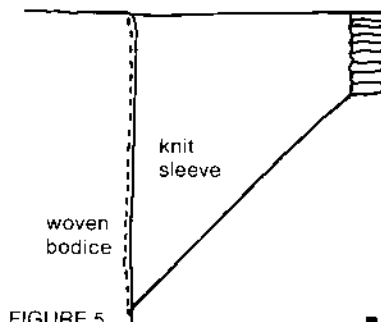

FIGURE 5
**Sewing:** Finish the woven garment section and the knitted sections separately. Turn under the seam allowance of the woven bodies at the armhole. Insert the sleeves into the armholes and top-stitch as shown in Fig. 5.